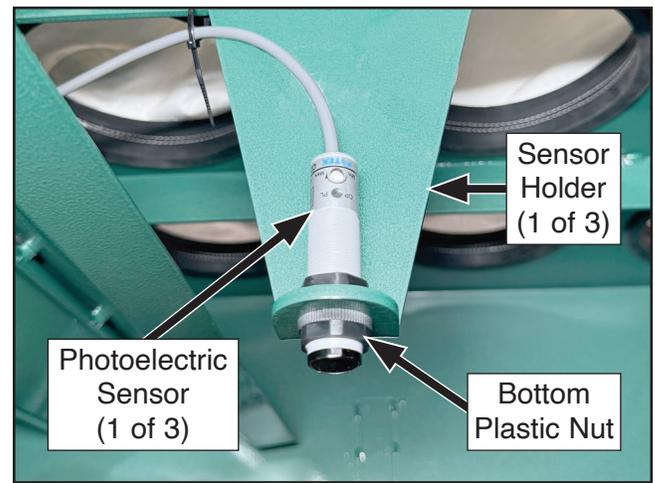

Figure 52. Photoelectric sensor installed in sensor holder.
43. Remove bottom plastic nut from (1) photoelectric sensor, then insert base of sensor through sensor holder under machine (see **Figure 52**).
44. Install bottom plastic nut (see **Figure 52**) removed in **Step 43**, and tighten until sensor is secure.